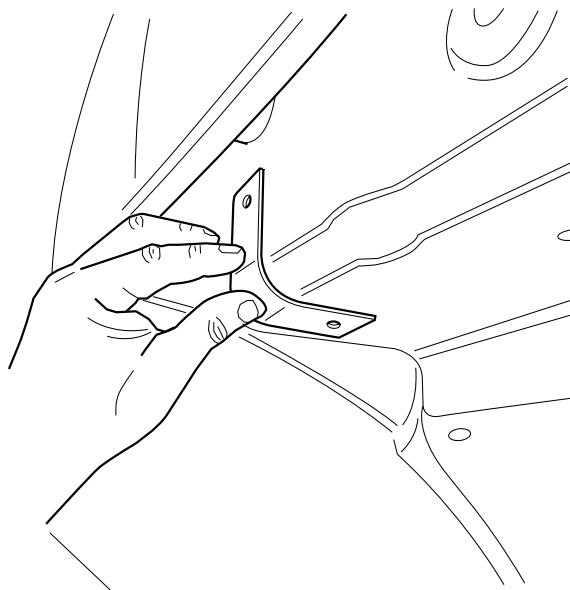

Figure 1: Brace Location
3. Position the braces as close to the rear edge of the inner fender rails and still lay flat against the inner fender rails (See Figure 1).